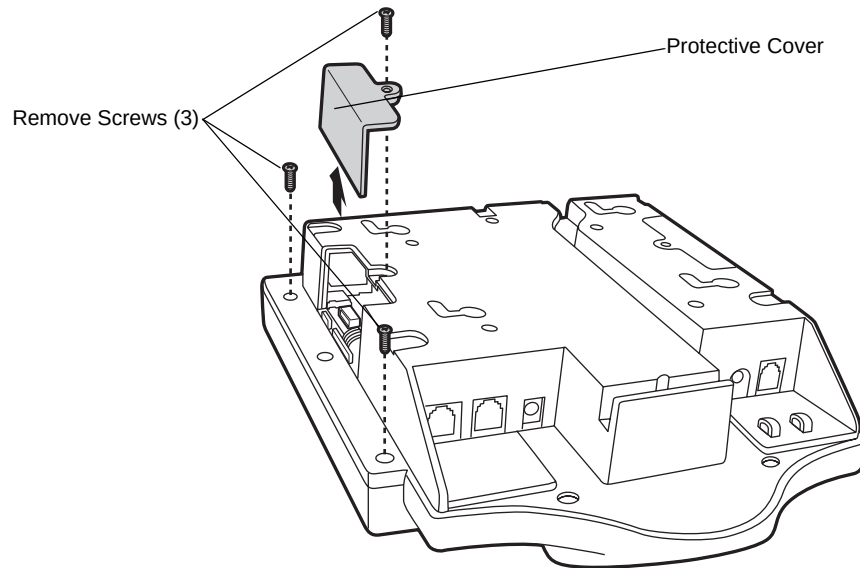

Figure 2-12 Removing the Cover and Screws
2. Remove the three screws shown in Figure 2-12 from the back of the MK2200 and remove the protective cover. Retain only the screw from the protective cover. Two new (longer) screws are provided with the MSR.